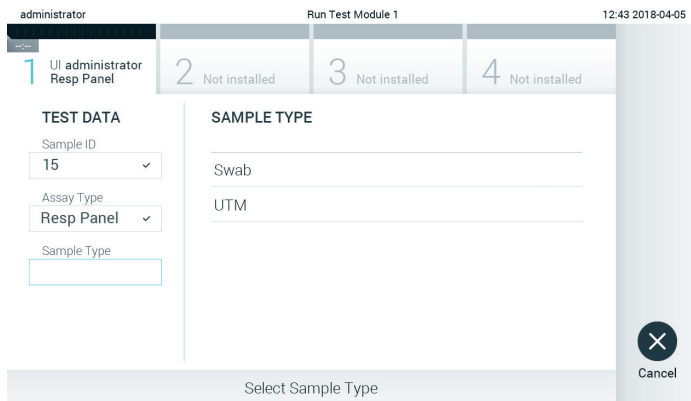

Figure 72. Selecting sample type.
5. The **Assay Type** field will be automatically entered and, if required, an appropriate **Sample Type** must be manually selected from the list (Figure 72).